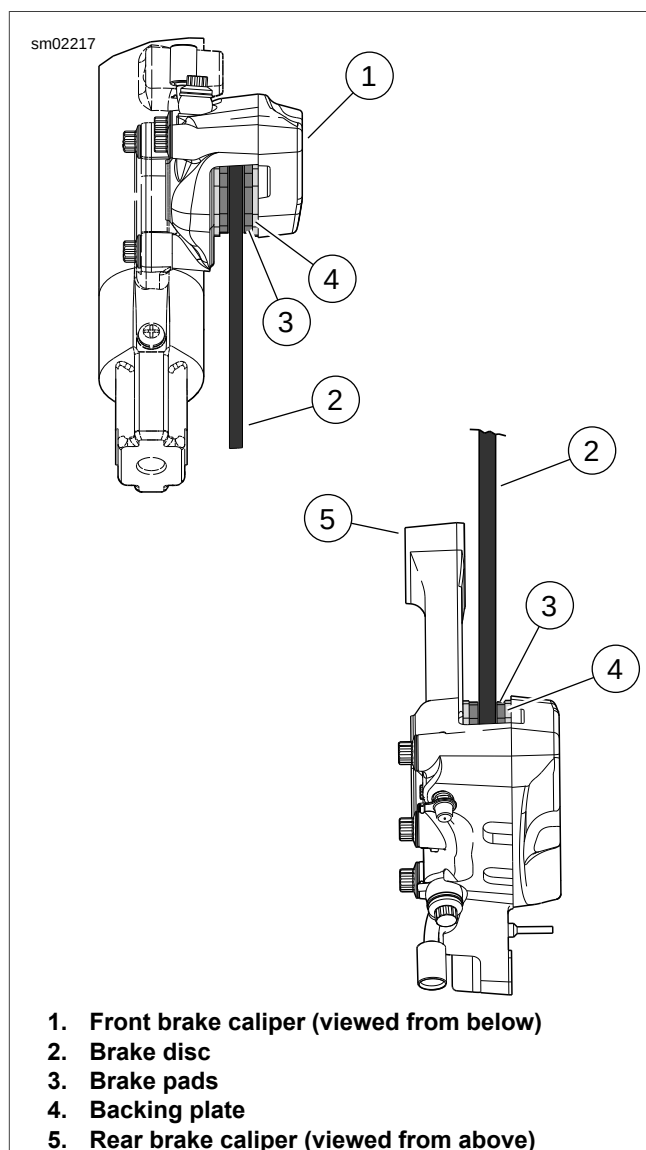

Figure 1-30. Brake Pad Inspection
See Figure 1-30. Replace brake pads (3) if brake pad friction material on either the front or rear caliper is worn to 0.04 in. (1.02 mm) or less above the backing plate (4). Always replace both pads in a caliper as a set. See 1.16 BRAKE PADS AND DISCS, Brake Pad Replacement.